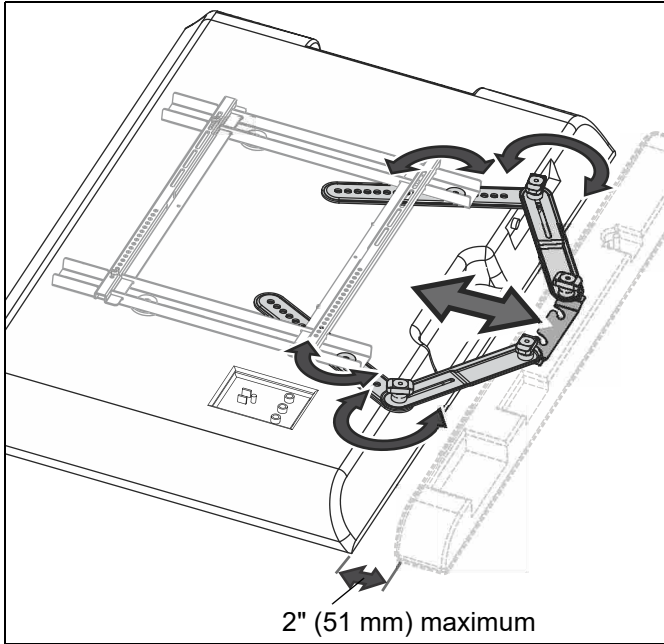

Figure 9
1. Adjust both arms of soundbar brackets (A) until soundbar is in desired position. (See Figure 9)